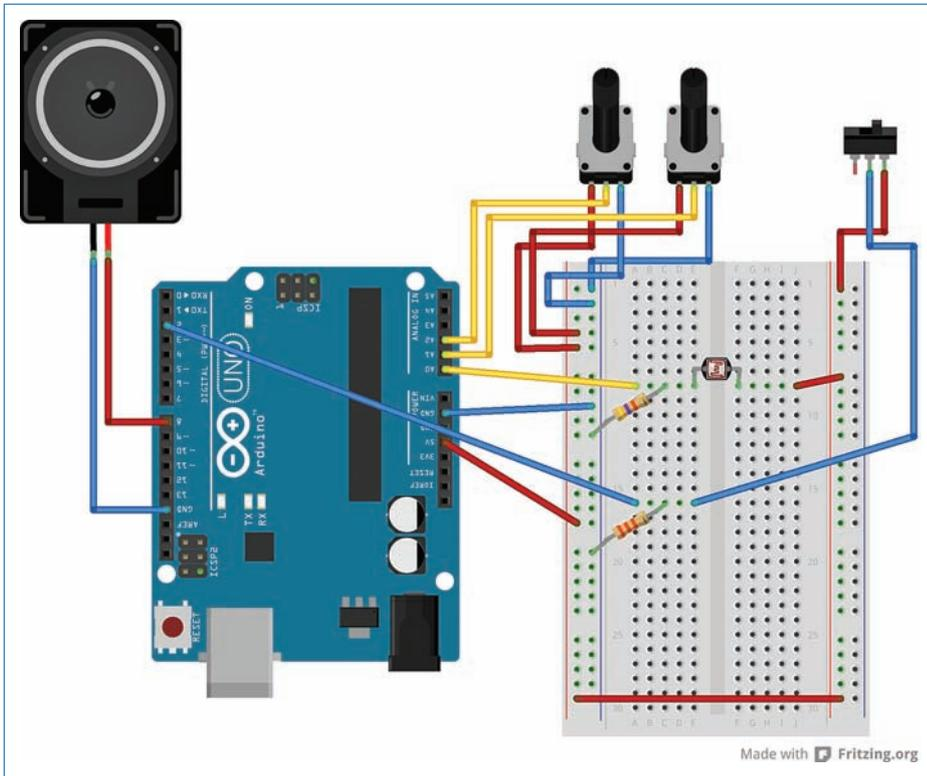

FIGURE 10.21 Wire up the Noisemaker as you see here.
12. Plug the positive wire of the speaker into pin 8, the middle lead of the potentiometers into pins A1 and A2, the switch into pin 2, and the light sensor into A0. You're done! The circuit should look like Figure 10.21, except possibly not having a breadboard. All you have to do is plug in the 9V battery via the battery plug and you're golden!